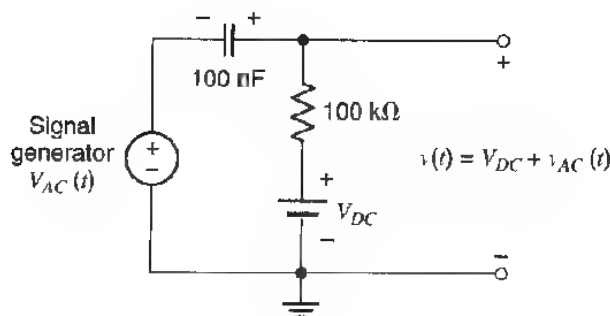
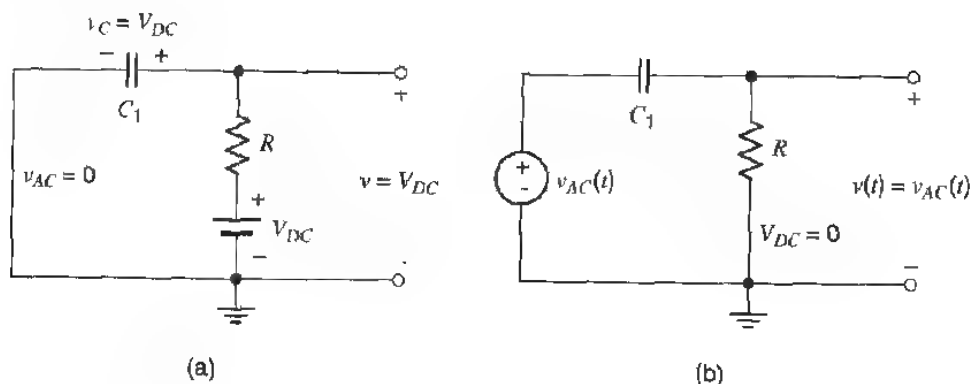

Fig. 3
Fig. 4
1. Hook up the circuit of Fig. 1, using connections as short as possible, and with the voltage of PS1 set to zero for now. The chip that will be used in this experiment is the CD4007, the same chip used in the first half of Experiment 11. Fig. 3 of that experiment shows the pin assignment for the transistor we will be using. The circuit of Fig. 1 will be used in the following steps to investigate the use of a MOSFET as an amplifier.
12. Consider the circuit of Fig. 3. It contains a DC source V_{DC} and an AC source $v_{AC}(t)$. The output voltage of the circuit is affected by both of these voltages. If the frequency of the signal is much higher than $1/(2\pi RC)$, the output of the circuit will almost be $v(t) = V_{DC} + v_{AC}(t)$, as indicated in the figure. To see this, consider the effect of each voltage source in the circuit by itself, as explained below
Assume, first, that $v_{AC}(t) = 0$; this is equivalent to assuming that the signal generator is replaced by a short circuit, as shown in Fig. 4(a). Then the capacitor charges up to the DC voltage value, that is, $v_C = V_{DC}$. Using Kirchhoff's voltage law, we conclude that, in the steady state, $v = V_{DC}$, as indicated in the figure
Assume now that the DC voltage in Fig. 3 is zero instead; this is equivalent to assuming that the DC source is replaced by a short, as shown in Fig. 4(b). The capacitor and resistor now form a high-pass filter with cutoff frequency $1/(2\pi RC)$ (see Experiment 7). If the frequency of the signal is much higher than this, the signal will pass to the output; in other words, $v(t) = v_{AC}(t)$, as indicated in the figure.
Since the circuit is *linear*, superposition will apply. When *both* voltage sources in Fig. 3 are active, the output voltage will be the sum of the individual results in Figs. 4(a) and (b), that is, $v(t) = V_{DC} + v_{AC}(t)$, as indicated in Fig. 3. Thus, we have a circuit in which the AC voltage is coupled to the output through the capacitor (which is, for this reason, called a *coupling capacitor*) and is added to the DC voltage. At the same time, the capacitor blocks the DC voltage from reaching the AC source.
Hook up the circuit of Fig. 3. (CAUTION: It is unlikely that the 100 nF capacitor will have polarity indicated on it, but if it does, make sure to observe it, as shown in Fig. 3.) Use a DC voltage of 2 or 3 volts and a signal voltage with an amplitude of about 0.25 V and a frequency of 1 kHz. [Is this frequency much higher than
- Remove PS1 from the circuit of Fig. 1, and instead use the circuit of Fig. 3 to produce the voltage v_{GS} , as shown in Fig. 5 (for now, set the signal amplitude to 0). The resistor shown connected across the output is meant to indicate any load the amplifier is supposed to drive; for our purposes, this load will be just a scope probe. The probe has a large input resistance (typically 1 M Ω) and can be connected there without disturbing the operation of the amplifier. Capacitor C_2 is a coupling capacitor, which allows the AC variation of v_{DS} to appear across the load but blocks the DC value of that voltage. Essentially, C_2 forms a high-pass filter together with the load resistance. This filter passes the (high-frequency) AC variation of v_{DS} to the load but rejects the DC (i.e., zero-frequency) part of v_{DS} . (In the unlikely event that the capacitors indicate polarity on them, make sure to observe it, as shown in Fig. 5.)